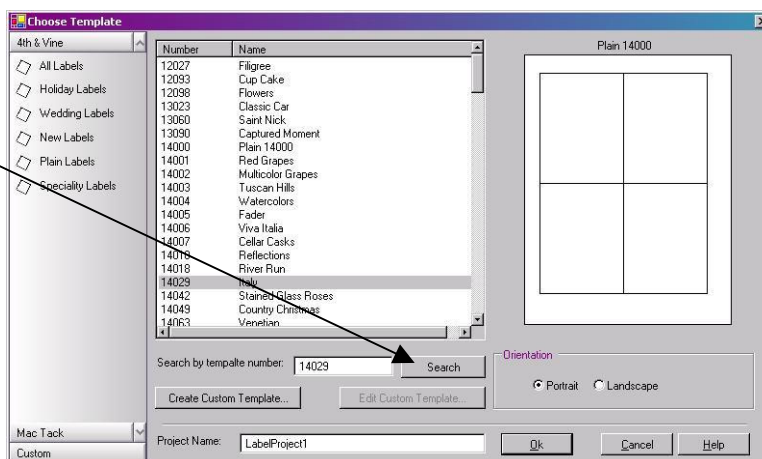

Figure 3.2.7: Search for the template
3. Click the Search button (see Figure 3.2.7).